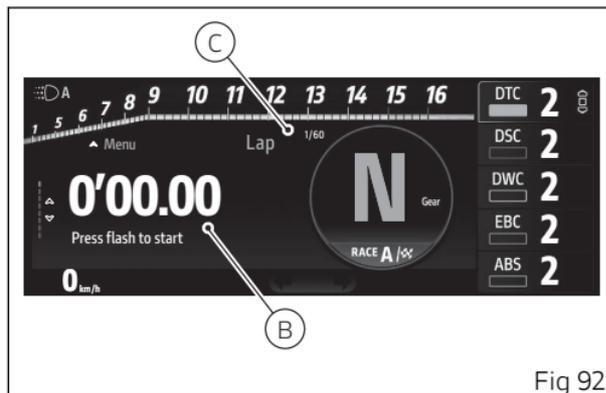
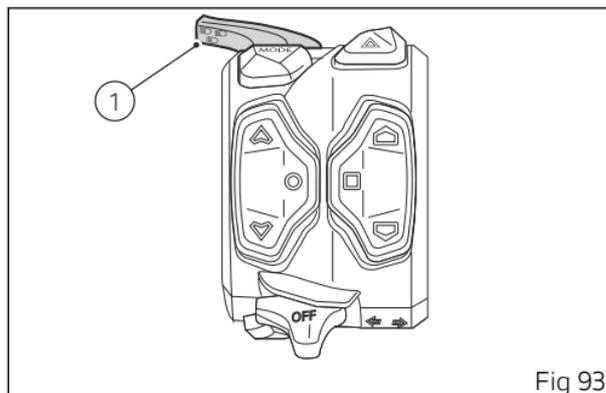

Fig 92
Fig 93
If there is no GPS system on the motorcycle, timer can be started and stopped by pressing the FLASH (button 1, Fig 93) after activating the function:
- when pressing FLASH (1, Fig 93) once, both timer (B, Fig 92) (that starts) and lap number (C, Fig 92) will flash for 1 second.
- position the bike on the finish-line and press the FLASH button (1, Fig 93); the corresponding icon becomes white;
- position the bike on the line for intermediate point 1 and press and hold the FLASH button (1, Fig 93); the corresponding icon becomes white;
- position the bike on the line for intermediate point 2 and press and hold the FLASH button (1, Fig 93); the corresponding icon becomes white;
- position the bike on the line for intermediate point 3 and press and hold the FLASH button (1, Fig 93); the corresponding icon becomes white.
If the motorbike is equipped with the DDL system (see page 152), when the DDL symbol flashes it indicates that the DDL system is acquiring the track: during this phase, the finish-line and intermediate point coordinates can be stored. The DDL system exits the acquisition phase when passing over the finish-line again. To repeat the acquisition phase, the FLASH button (1, Fig 93) must be pressed, restarting at the finish-line position.